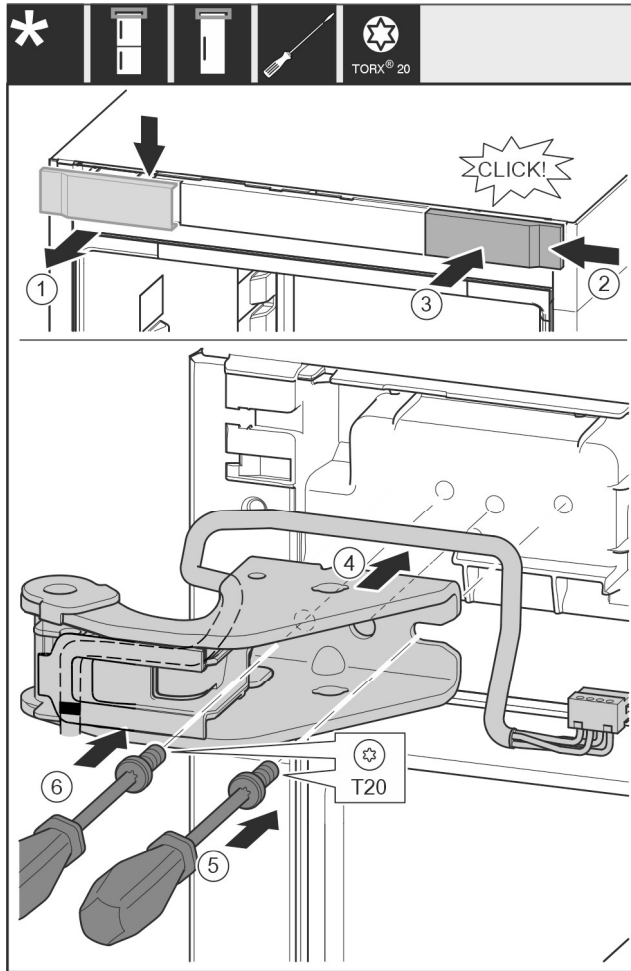

Fig. 32
- ▶ Remove the cover *Fig. 32 (1)* from the top towards the front.
- ▶ Hang the cover *Fig. 32 (2)* from the right turned by 180° to the other side.
- ▶ Snap in the cover *Fig. 32 (3)*.
- ▶ Attach the top swap bearing block *Fig. 32 (4)*.
- ▶ Attach and tighten the screw *Fig. 32 (5)* with a screwdriver.
- ▶ Attach and tighten the screw *Fig. 32 (6)* with a screwdriver.